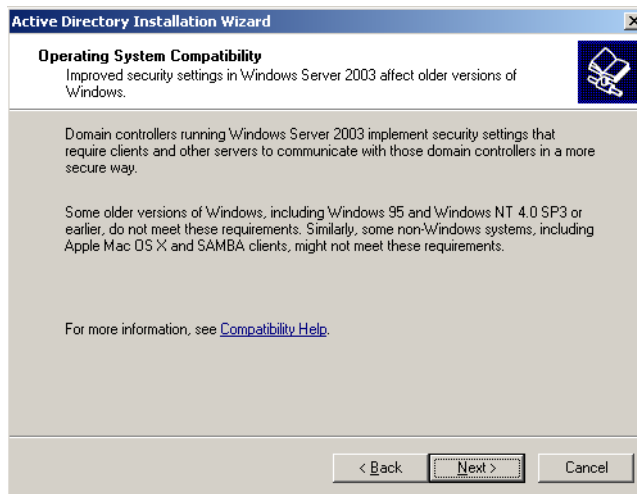

Figure D-7 Active directory installation wizard
7. From the **Active Directory Installation Wizard** shown in figure D-7, click the **Next** button to begin the installation.